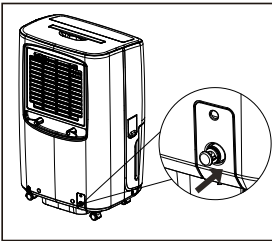

fig. 11
- a. Press the tightening ring of drainage joint, and then pull out the plug in the joint. (fig.11)